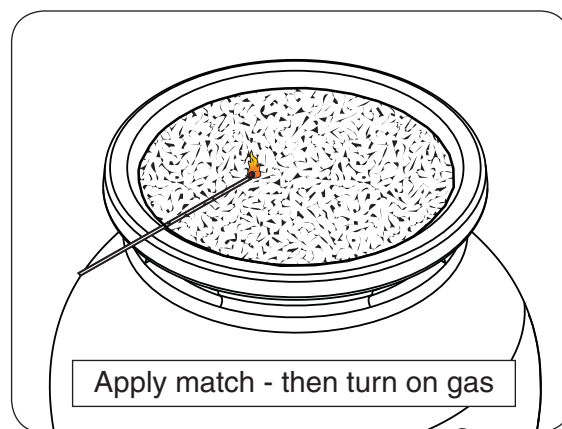

Fig. 21-1
3. Lay a lighted long-stem match on the surface of the decorative media near the burner (**do not hold the match in your hand**) or use a lighted long-necked butane lighter (Fig. 21-1).